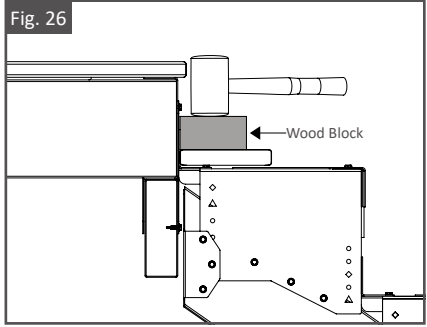

Fig. 27
4. Turn the Square Edge Deck Board over and use a 1/2" [13mm] drill bit to drill 1/8" [3mm] deep holes at each screw location. This allows the Square Edge Deck Board to lay flat on the Stair Tray. As shown in Fig. 27.